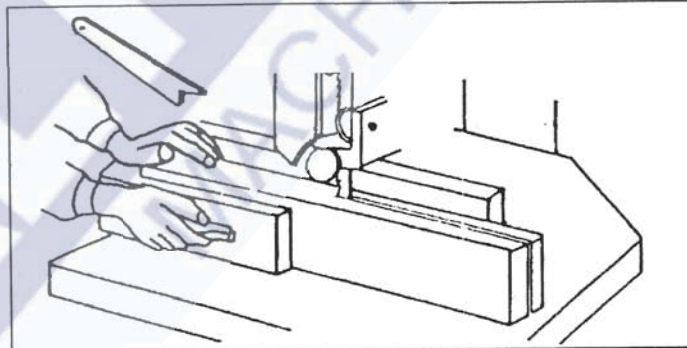

Fig. A-2 Cutting with a guide
A.3.4 For straight-line cuts a guide must always be used to prevent the piece rolling or slipping (see fig. A-2). For work on smaller thicknesses, the guide must be used in the bottom position to allow the guides and U-guard of the blade to be adjusted on the piece and, in addition, to allow safe removal of the material - from the area around the blade, with the aid of a special rod.